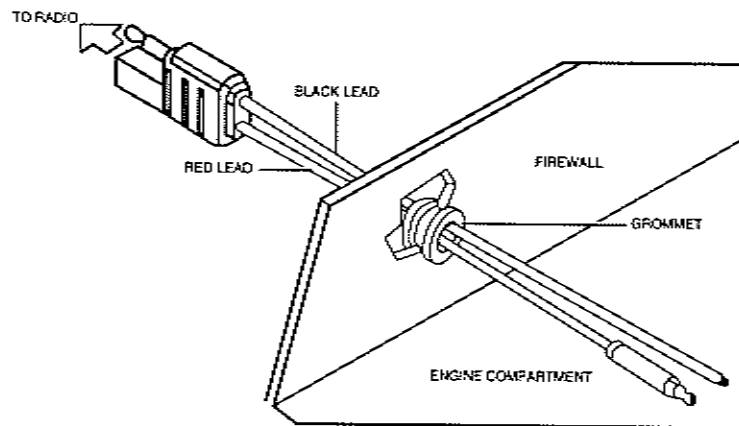

Figure 1. DC Power Cable Routing into Engine Compartment
- (1) Determine a routing plan for the power cable with reference to where the radio is to be mounted.
- (2) Locate an existing hole with a grommet in the vehicle fire wall, or drill a 3/8" access hole at the location for passing the power cable into the engine compartment. Install a grommet with 1/4" internal diameter in the access hole to avoid damage to the cable.
- (3) From inside the vehicle, feed the red and black leads (without lugs attached) through the access hole and into the engine compartment. See Figure 1.